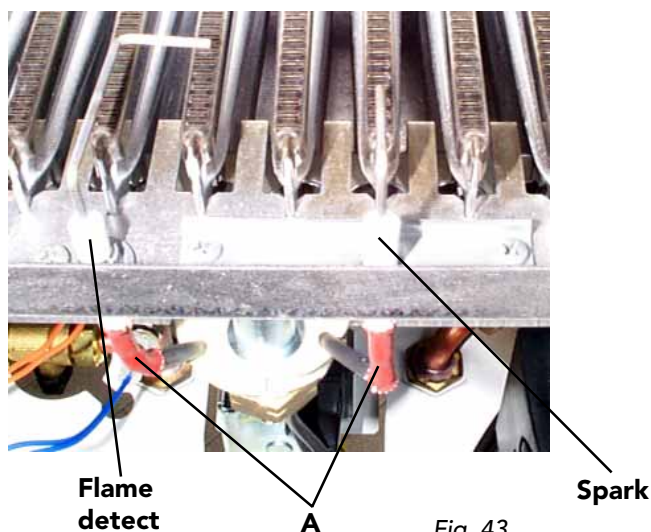

Fig. 43
7.12 Spark or flame detect electrode (fig. 43)
- Identify electrode from fig. 43